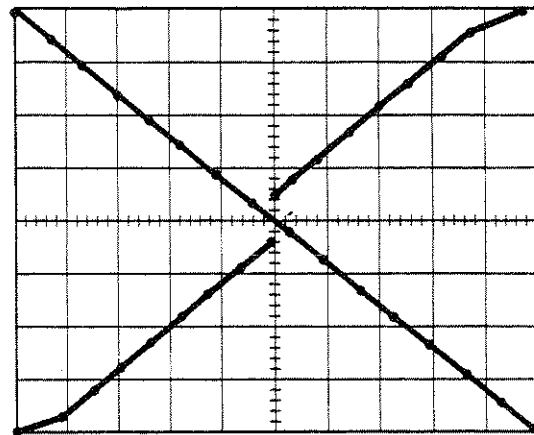

Figure 8-12. Oscilloscope Signature Analysis (SA) Test Pattern
- Turn on the Noise Figure Meter. Adjust the oscilloscope horizontal and vertical positions and the Channel A and Channel B calibration controls to fill the oscilloscope display with the "X" type pattern as shown in Figure 8-12.